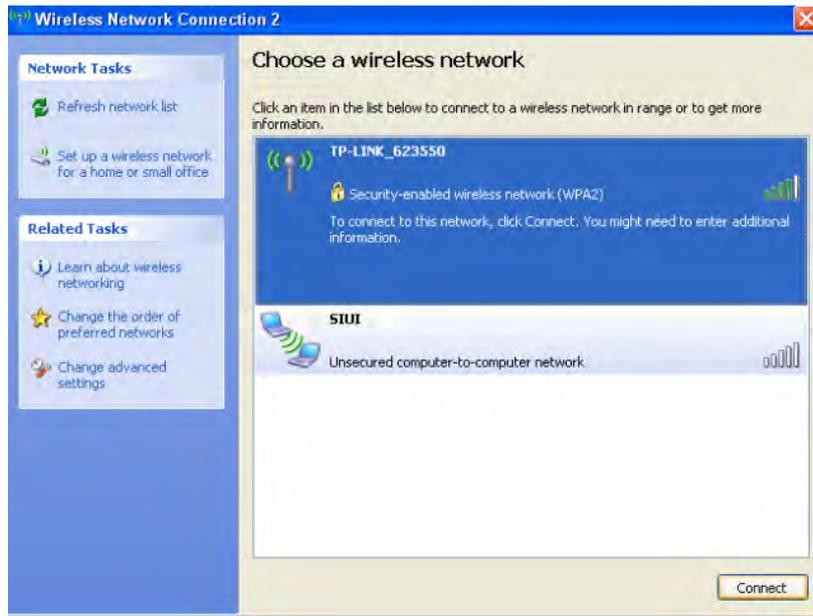
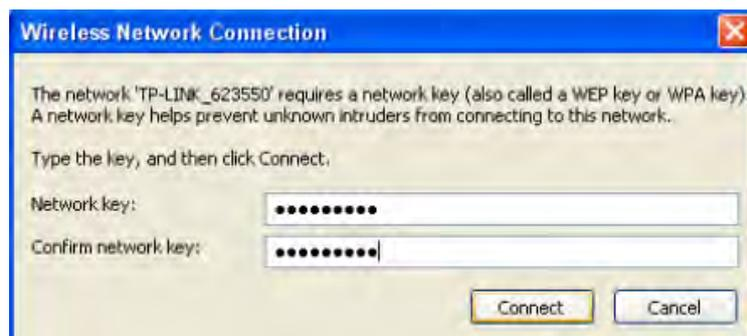

Fig. F-7 Wireless network connection
Fig. F-8 Entering the network key
- 3) In the pop-up window with the WLAN networks (Fig. F-7), use the trackball and **Set** and double-click on the desired WLAN network. In the pop-up window with the connections (Fig. F-8) enter the WLAN key and click on **Connect** to connect to the network.